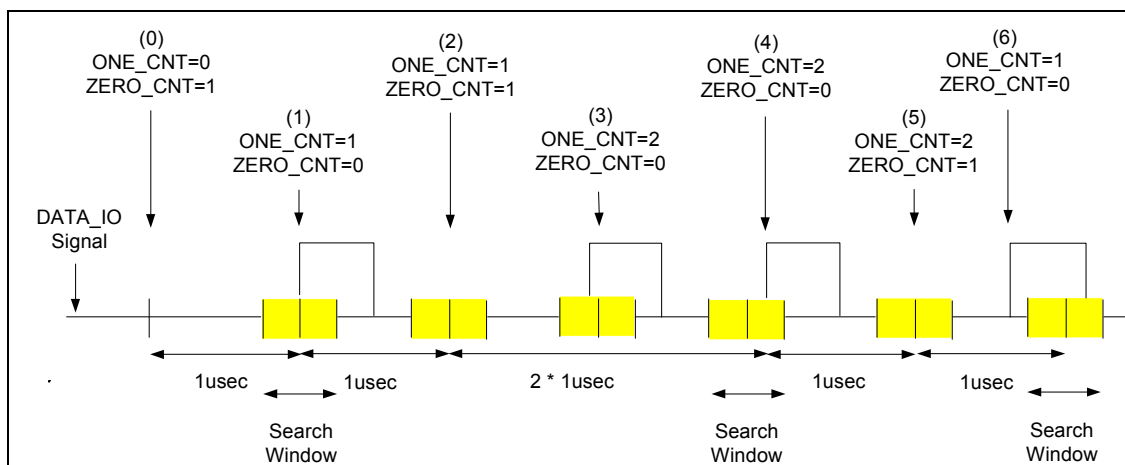

Fig. 8-2 Carrier-Sense Example
In the example shown in Figure 8-2, at time (1) a new “1” bit is received after a “0” bit was received. Thus, ONE_CNT equals 1 and ZERO_CNT is reset to 0. At time (2), a zero bit is received, so the ZERO_CNT is incremented. At time (3), a “1” is received after a “0” bit that was received before it. Thus ONE_CNT is incremented and ZERO_CNT is reset. At time (4) a “1” bit is received after a “1” bit, thus, there is no change in any counter. At time (6) a “1” bit is received out of the allowed window, so ONE_CNT is reset to 1.